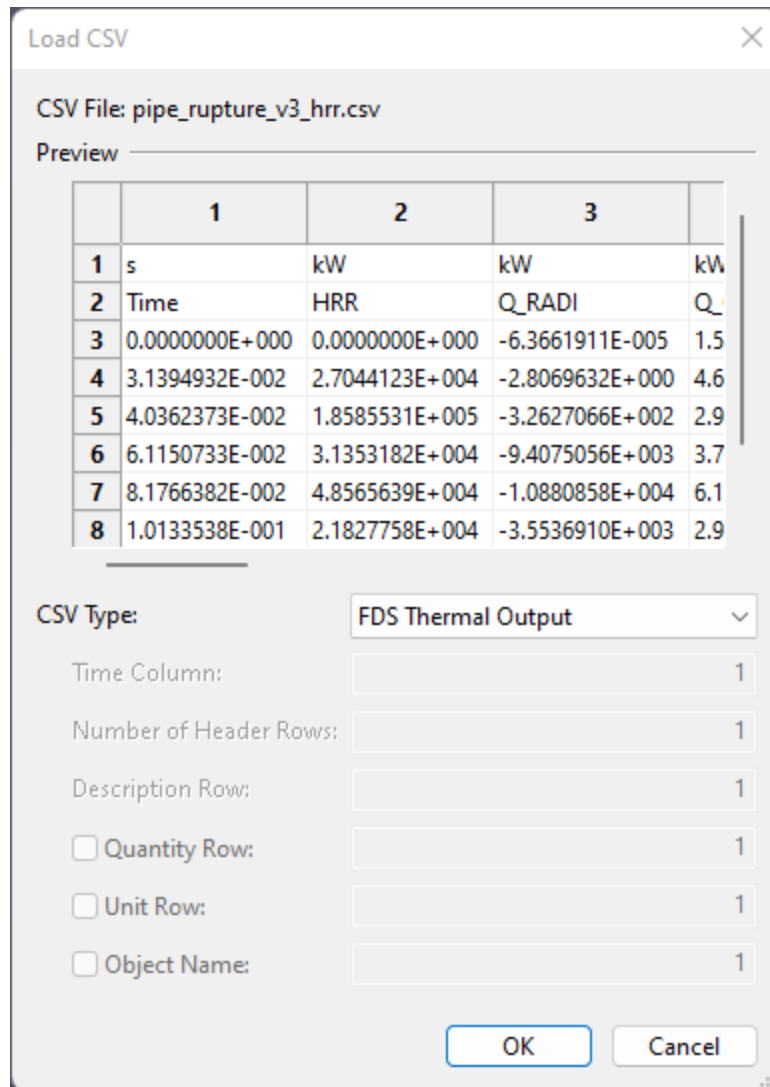

Figure 111. Load CSV Dialog
5. Enter the required information in the **Load CSV** dialog as shown in Figure 111 and click **OK**.